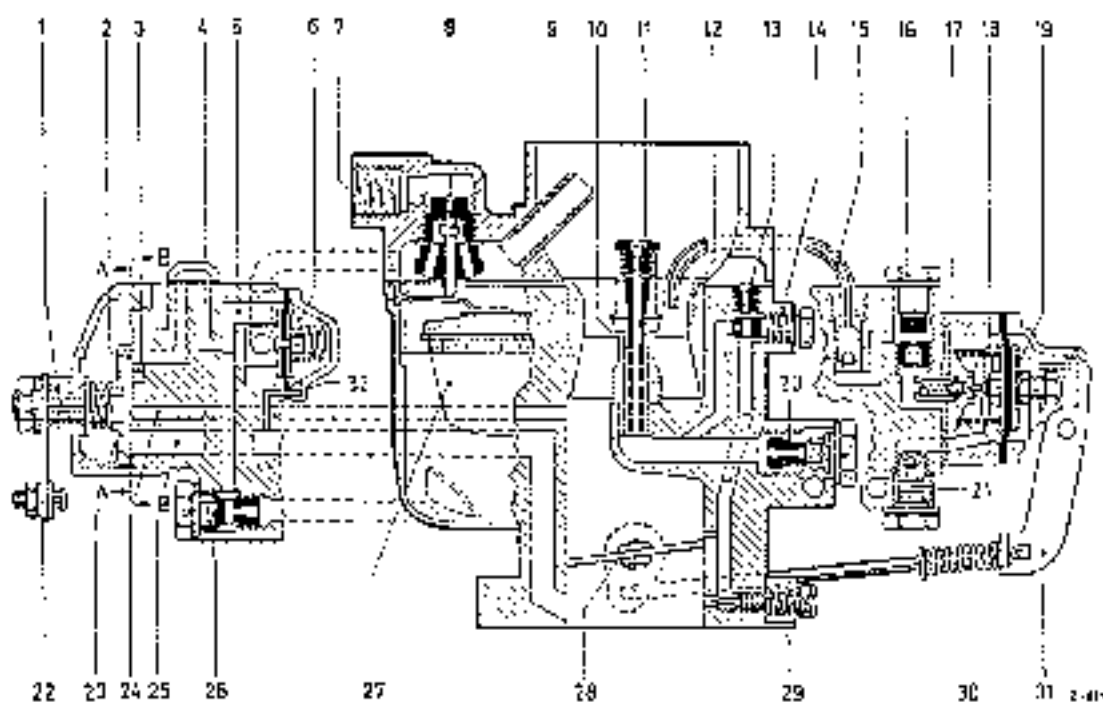

Fig. 07-0/10 c
The acceleration pump used for carburetor 34 PJC8 is a so-called "neutral" pump (carburetor 32 PJC8 has a strengthening or enriching pump). With a neutral acceleration pump the engine is able to take in additional fuel by way of the injection tube (15) and bore (17) from the pump system at partial load and at full load, depending on the vacuum in the air horn, without operating the accelerating pump (Fig. 07-0/10 c).